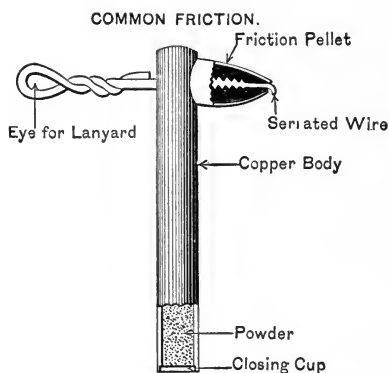

FIG. 34.
A. Its action consists in the friction of a saw-tooth wire being pulled through a portion of mercuric fulminate, which explodes and ignites a small charge of powder in the primer, which in turn ignites the main charge in the gun. (See Figs. 34 and 35.)